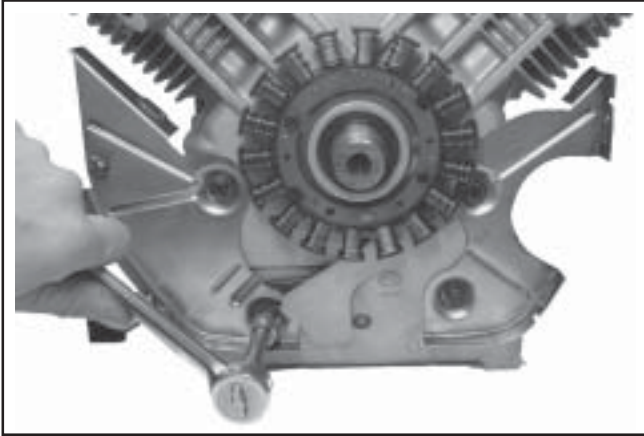

**Figure 9-52. Removing Flywheel with a Puller.**
3. Use a puller to remove the flywheel from the crankshaft. See Figure 9-52.